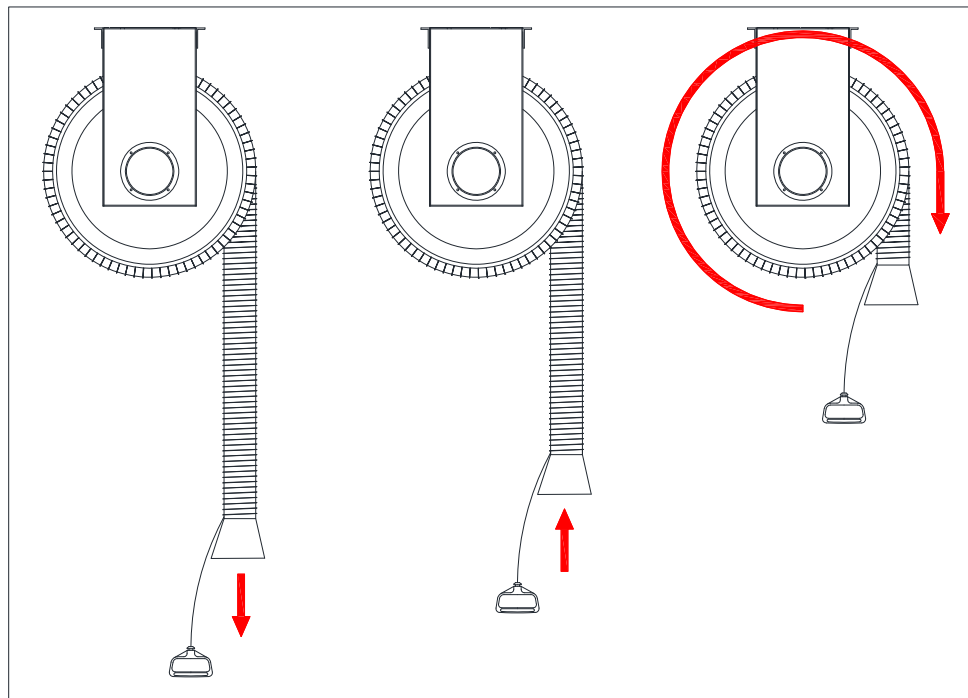

FIG4 – TENSION ADJUSTMENT PROCEDURE (INCREASE)
- a. To increase tension, pull the hose down at least 10' and let the hose retract slightly until the lock engages. With the reel locked into place, loop the 10' of hose around the drum. You will need to remove the adjustable hose stop and may also need to remove the exhaust adapter. Repeat this procedure until reel retracts hose slowly to desired height. See FIG4 for adjustment illustration.